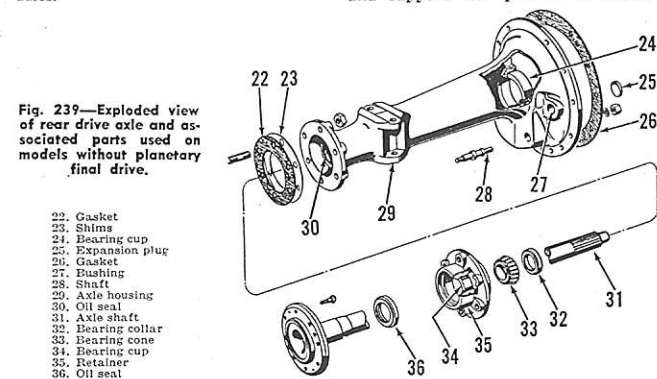

Fig. 239—Exploded view of rear drive axle and associated parts used on models without planetary final drive.
209. BEARING ADJUSTMENT. To check the bearing adjustment, proceed as follows: Support tractor and remove rear tire and wheel assemblies. Shift tractor to neutral, rotate either axle shaft and observe the other axle. If both axles turn in the same direction, the bearing adjustment is too tight. A minimum end play of 0.002 and a maximum of 0.008 should exist in the axle bearing and shafts. End play is controlled by the total shim pack (23—Fig. 239) installed between BOTH axle housing (29) and retainers (35), and varying the thickness of either shim pack will affect the adjustment of both axles. Existing end play may be measured with a dial indicator, or by removing shims from either side until both axles turn in the same direction; then adding shims until clearance exists. Shims (23) are available in thicknesses of 0.004, 0.016 and 0.021.
Except for the right axle on models equipped with differential lock, axle shaft and bearing only may be removed from axle sleeve (29—Fig. 239) by supporting the tractor, removing wheel and tire unit, and unbolting bearing retainer (35) from axle sleeve (29).
211. **OVERHAUL.** Retainer (35—Fig. 239) and bearing cone (33) are secured to axle shaft (31) by a shrink-fit steel collar (32). To renew the axle shaft, bearing cone or cup, retainer or seal (36), first drill the collar (32) and split with a cape chisel; then pull the bearing using a suitable puller or press.